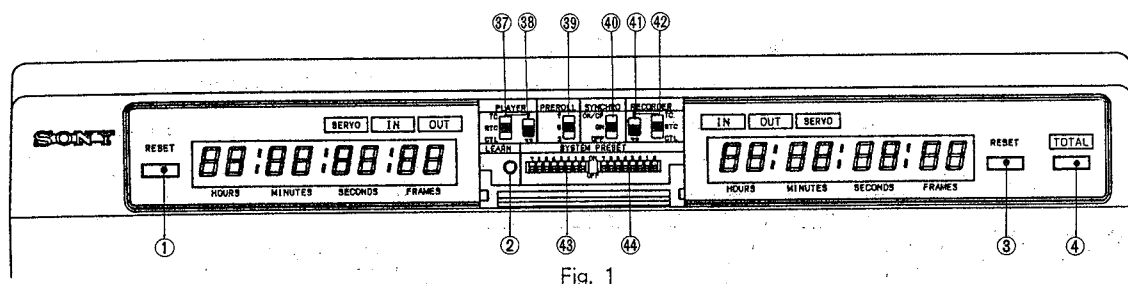
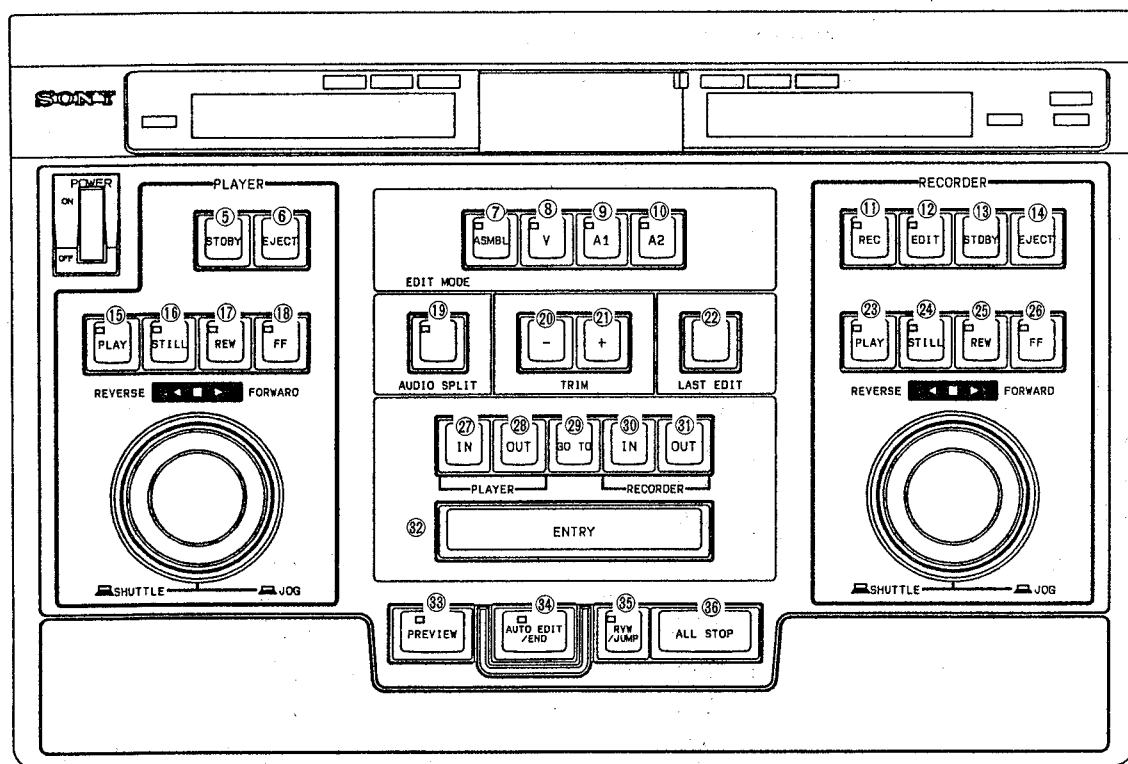

Fig. 1
Fig. 2
- 1) Turn power ON while pressing ② **LEARN** in Fig. 1 and ⑦ **ASMBL** in Fig. 2 at the same time.
- 2) Press ⑭ **EJECT**.
- 3) Again press ⑭ **EJECT**, and "11..." appears on 7-segment display on the left side.
- (1) Place all indoor switches ⑦ to ⑭ in Fig. 1 in upper position, and press ⑭ **EJECT**.
- (2) Place the above switches in lower position, and press ⑭ **EJECT** twice.
- (3) Place ⑦ ⑤ ④ and ② switches in Fig. 1 in center position, and press ⑭ **EJECT** twice.
- 5) Press ⑭ **EJECT**.
- (1) Turn ON the POWER switch while pressing ② **LEARN** in Fig. 1 and ⑩ **A2** in Fig. 2 at the same time.
- (2) Press ⑭ **EJECT** in Fig. 2.
- (3) Remove the DIP switch from S202.
To confirm whether additional error codes are present in the same step, press ⑬ **STDBY** key in Fig. 2.
To proceed to the next step, press ⑭ **EJECT** key in Fig. 2.